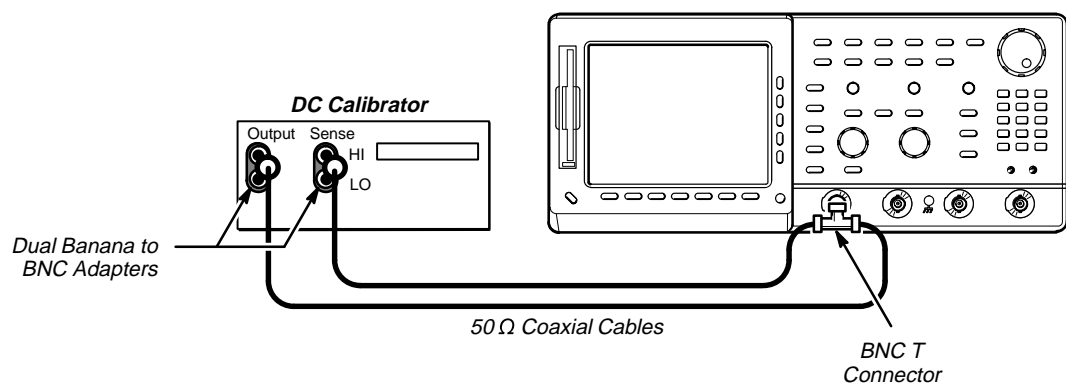

Figure 1-25: Subsequent Test Hookup
- Connect the output of a DC calibration generator through a dual-banana connector followed by a 50 Ω precision coaxial cable to one side of a BNC T connector. See Figure 1-25.
- Connect the Sense output of the generator through a second dual-banana connector followed by a 50 Ω precision coaxial cable to the other side of the BNC T connector. Now connect the BNC T connector to **CH 1**. See Figure 1-25.